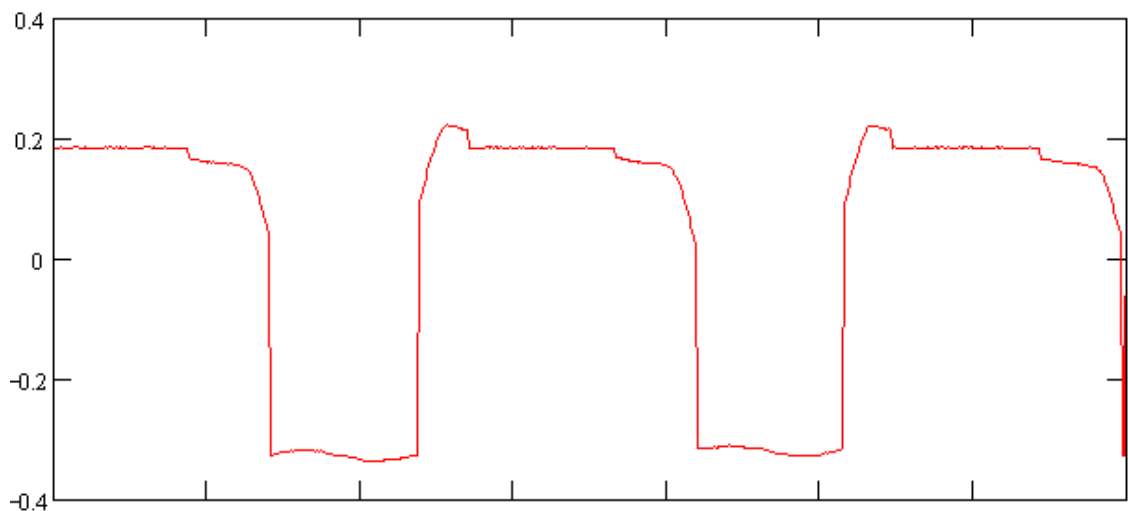

Figure 6.21 Typical Gfx signal trace.
- Remove the chopper box insulation. Connect a scope to TP1 (wrt TP5) on the signal processing PCB (1210/902). The trace should be stable and look like the trace shown in figure 6.21.